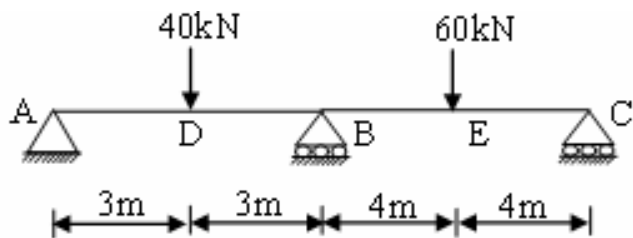

Figure 3
- (c) Determine the reaction at support for the continuous beam ABC as shown in **figure 3**. Using Moment distribution method. **07**